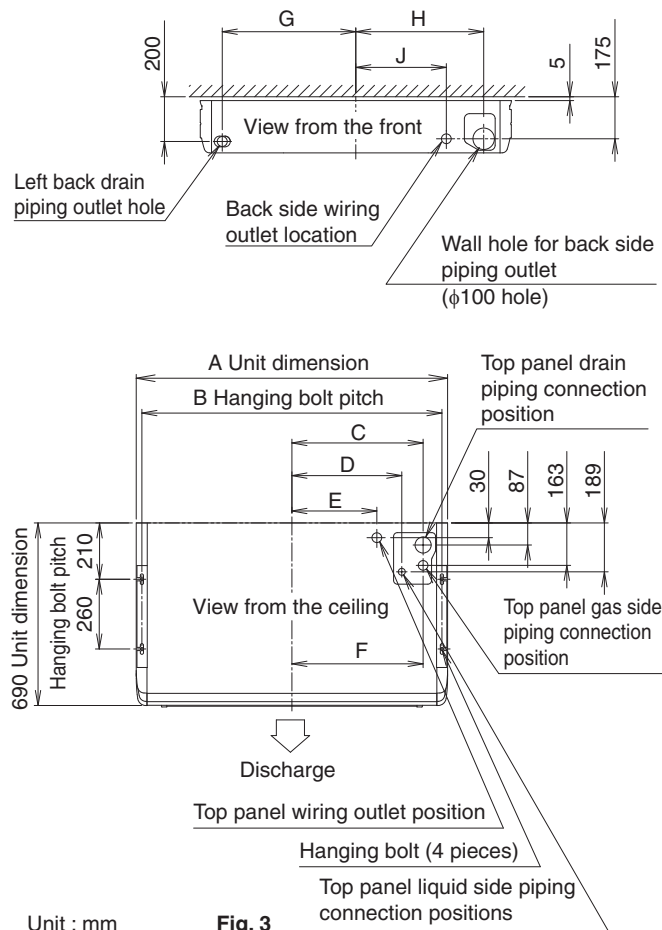

Fig. 3
- (1) For the locations of indoor unit hanging bolts, piping outlet holes, drain piping outlet hole, and electric wiring inlet hole. (Refer to Fig. 3)**